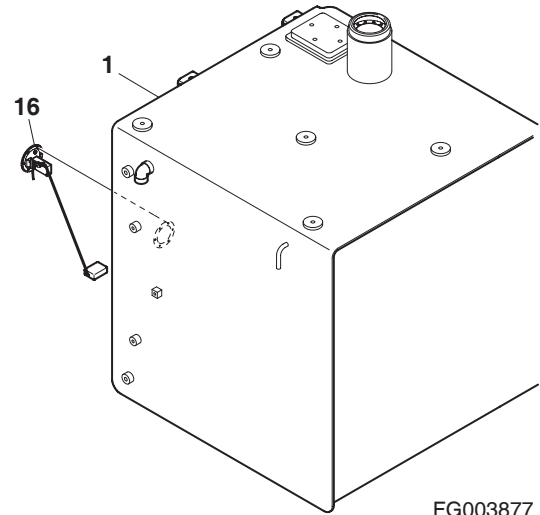

Figure 11
19. Tag and disconnect wires leading to fuel sender (16, Figure 11) on side of fuel tank (1).